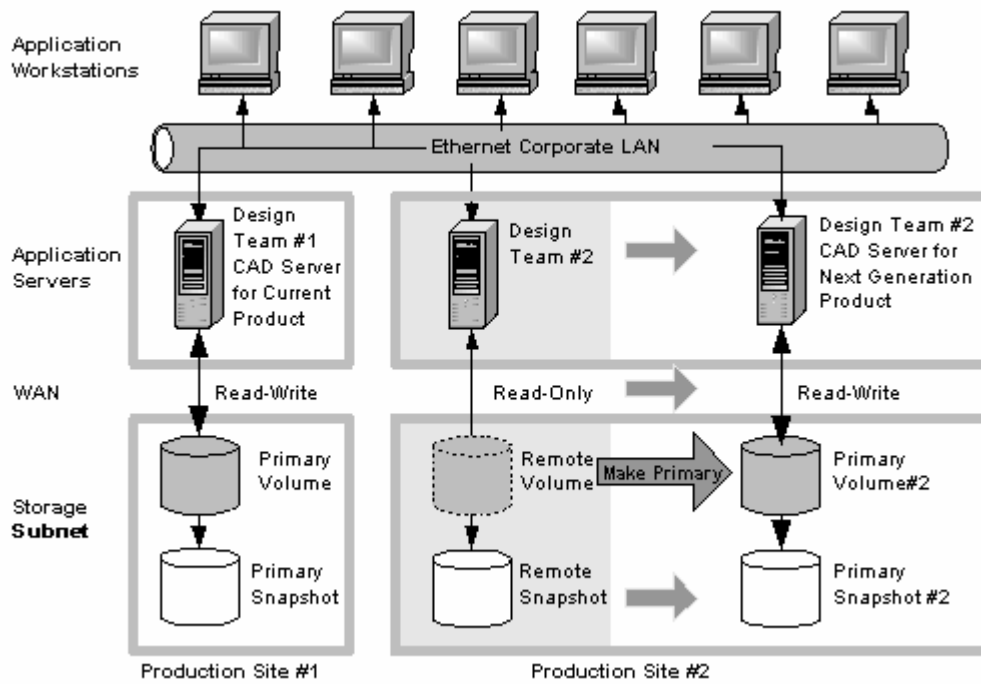

Figure 22 Configuration after data migration
- Figure 22 on page 55 shows the migration of data after converting a remote volume into a primary volume.